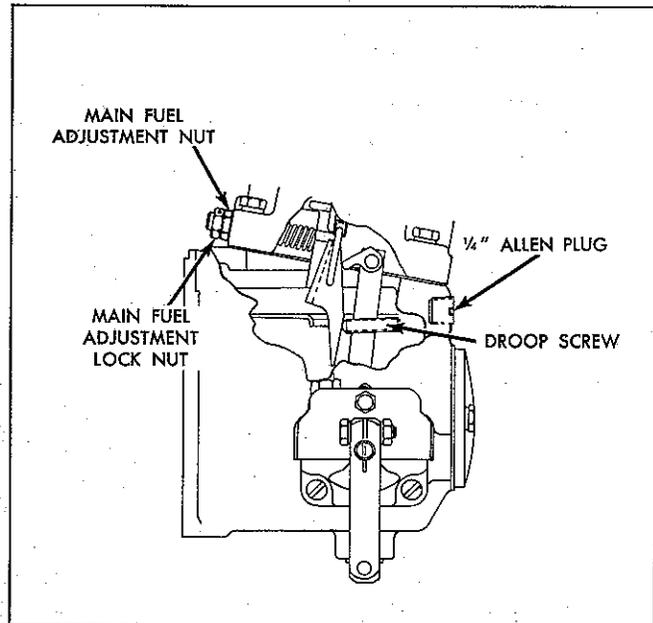

Figure 56
position, Figure 56. The outer nut is a locknut and the inner nut is the fuel adjusting nut. Fuel adjustments, whether to increase or decrease fuel are to be made by turning the fuel adjustment nut ONE flat, REPEAT, ONE flat, at a time. To increase manifold pressure, turn the inner adjustment nut clockwise. To decrease manifold pressure, turn the inner adjustment nut counterclockwise.
- (9) The example used in this instruction was for an engine with low manifold pressure, however, if in your case the manifold pressure was too high, the procedure remains the same except you must decrease fuel flow by turning the adjustment nut counterclockwise.
- (10) Upon reaching the desired manifold pressure at 2400 RPM, tighten the outer locknut up tight against the inner adjustment nut. Be careful not to move adjusting nut in doing so.
- (11) Recheck full load performance at 2400 RPM to insure that fuel adjustment nut did not move and that you are still within normal limits.
- (12) Safety wire and seal the fuel adjustment and locknut to the fuel density compensator housing to prevent loosening.
n. After increasing or decreasing the injection pump fuel delivery at 2400 RPM, whichever the case may be, the fuel delivery at 1600 RPM will also be changed, and must be checked and reset. This adjustment is accomplished by means of a droop screw located inside of the injection pump governor on the fulcrum lever assembly, Figure 56. The droop screw setting controls fuel delivery to the engine up to approximately 2000 RPM.
- (1) Suppose after 5 test runs the average manifold pressure reading was 12 inches Hg.
- (2) Still using the same engine as an example, having two-hole orifice nozzle tips installed and using Diesel fuel, this average reading is 2 inches Hg higher than the required 8 - 10 inches Hg.
- (3) This time it will be necessary to decrease fuel flow to bring the manifold pressure within limits.